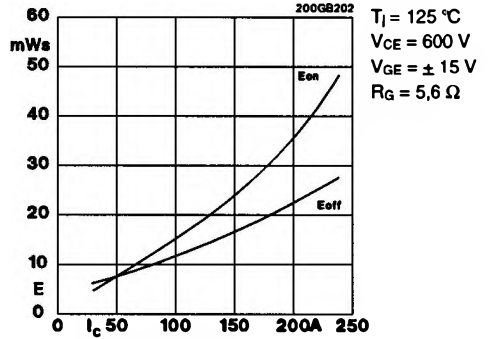

Fig. 2 Turn-on /-off energy =  $f(I_c)$
5) See fig. 2 + 3;  $R_{Goff} = 5,6\ \Omega$